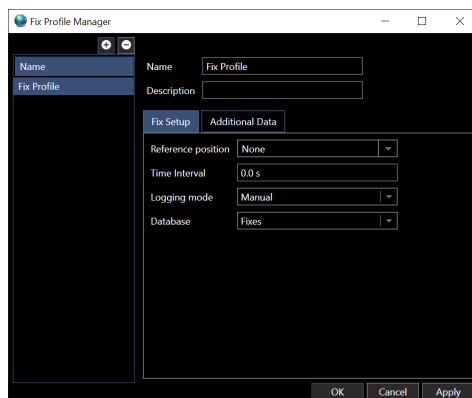

FIGURE 14-111 FIX PROFILE MANAGER DIALOG
2. Click the add button  to add a new profile, this displays the dialog to define the profile (see Figure 14-111).